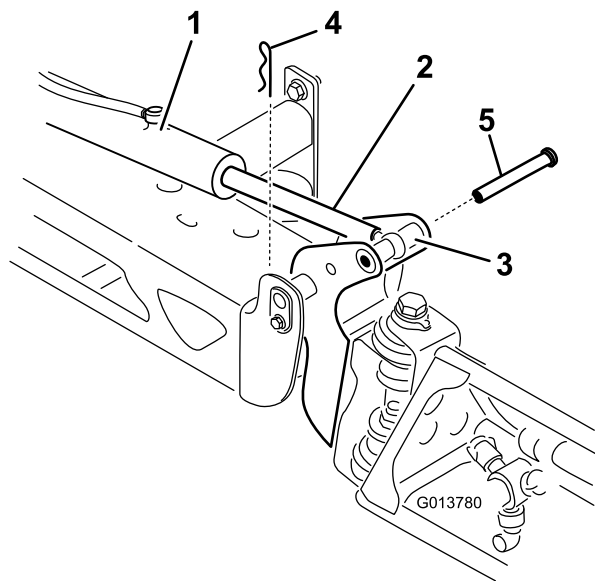

Figure 109
2. Remove the cotter pin from the pivot pin (Figure 109).
3. Lift up on the boom and remove the pin (Figure 109), and slowly lower the boom to the ground.
9. While holding the boom, insert the pin through both boom pivot and actuator rod (Figure 109).